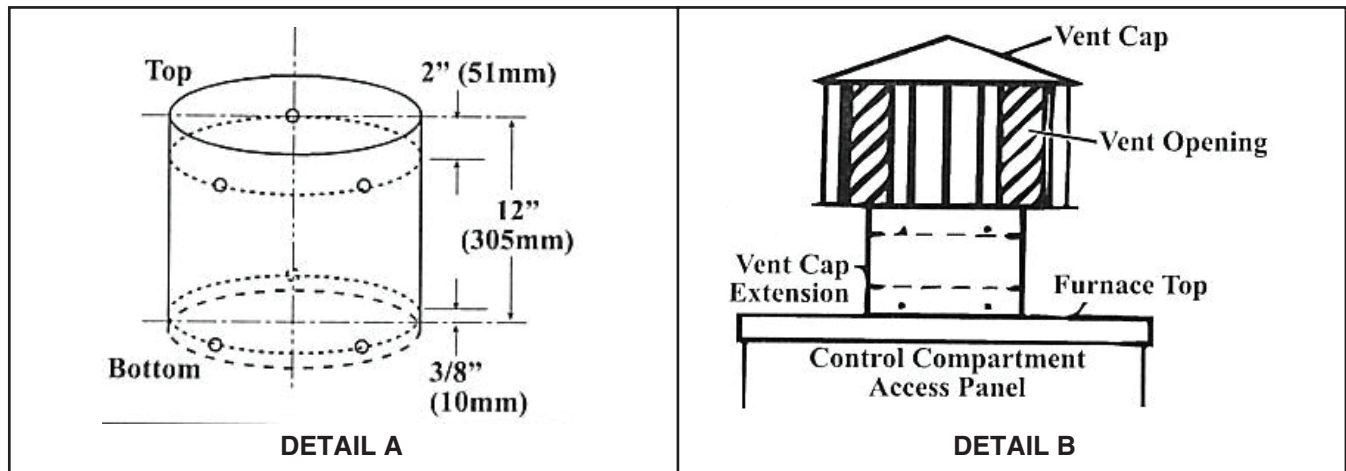

Figure 8. Vent Cap Extension and Vent Cap
NOTE: IMPORTANT REQUIREMENT: For proper operation of the gravity vent cap, position the pre-punched holes (see DETAIL B, Figure 8) so that the solid side panel of the cap faces the control compartment access panel side of the furnace.
1. Remove extension (PN 20524, see DETAIL A, Figure 8) from inside of vent cap (extension is packed inside cap).
3. Attach vent cap (see DETAIL B, Figure 8) to extension as follows: